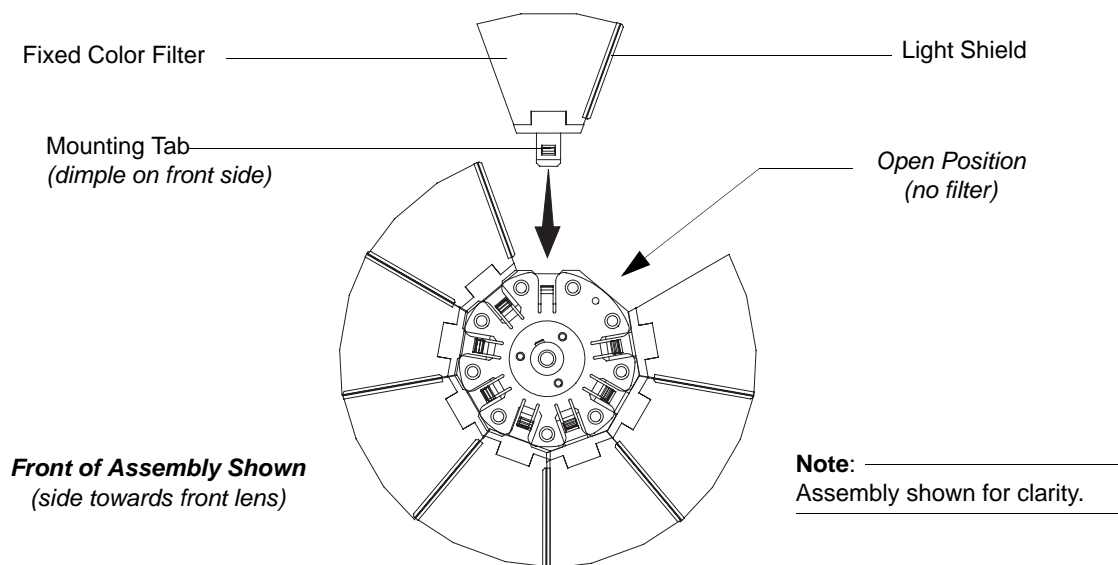

Figure A-6: Fixed Color Filter Wheel - Filter Installation.
- Step 5. At position where fixed color filter was removed, place replacement fixed color filter over open slot (as shown in Figure A-6), slide into wheel, and gently snap filter into place.